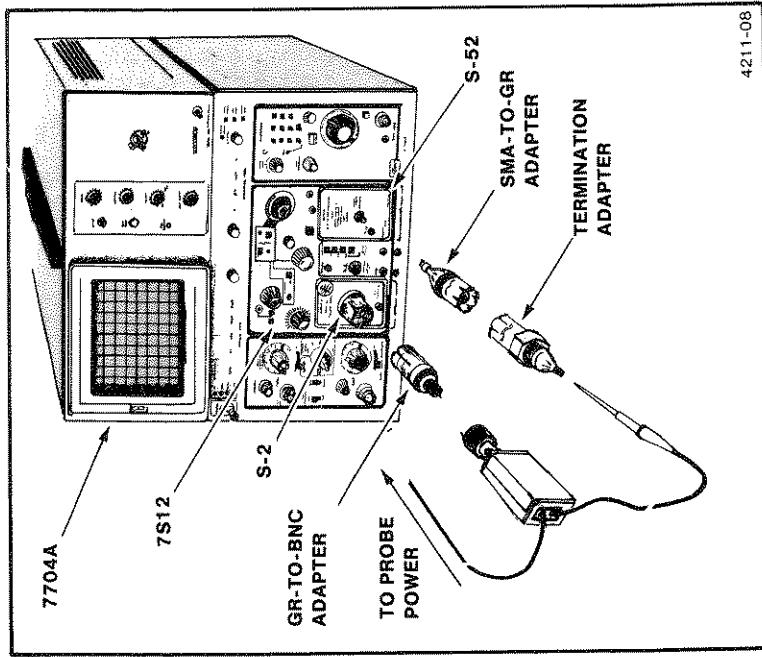

Figure 3-1. High-frequency check setup.
- a. Connect the test setup as shown in Figure 3-1.